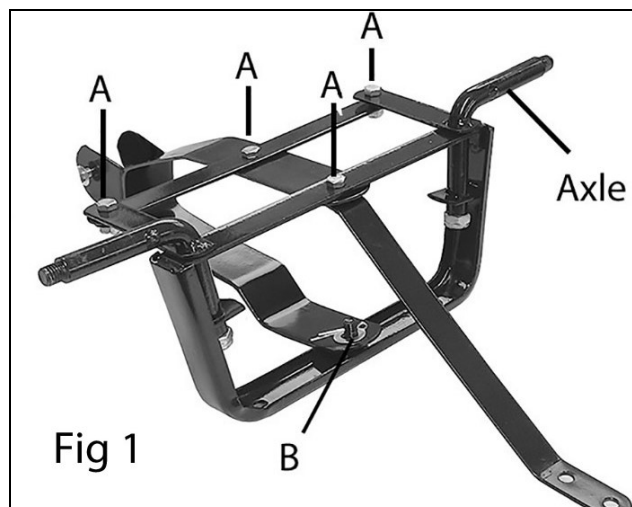

Fig 1
1. Assemble the steering linkage components to the front axle bracket as shown in Fig 1.